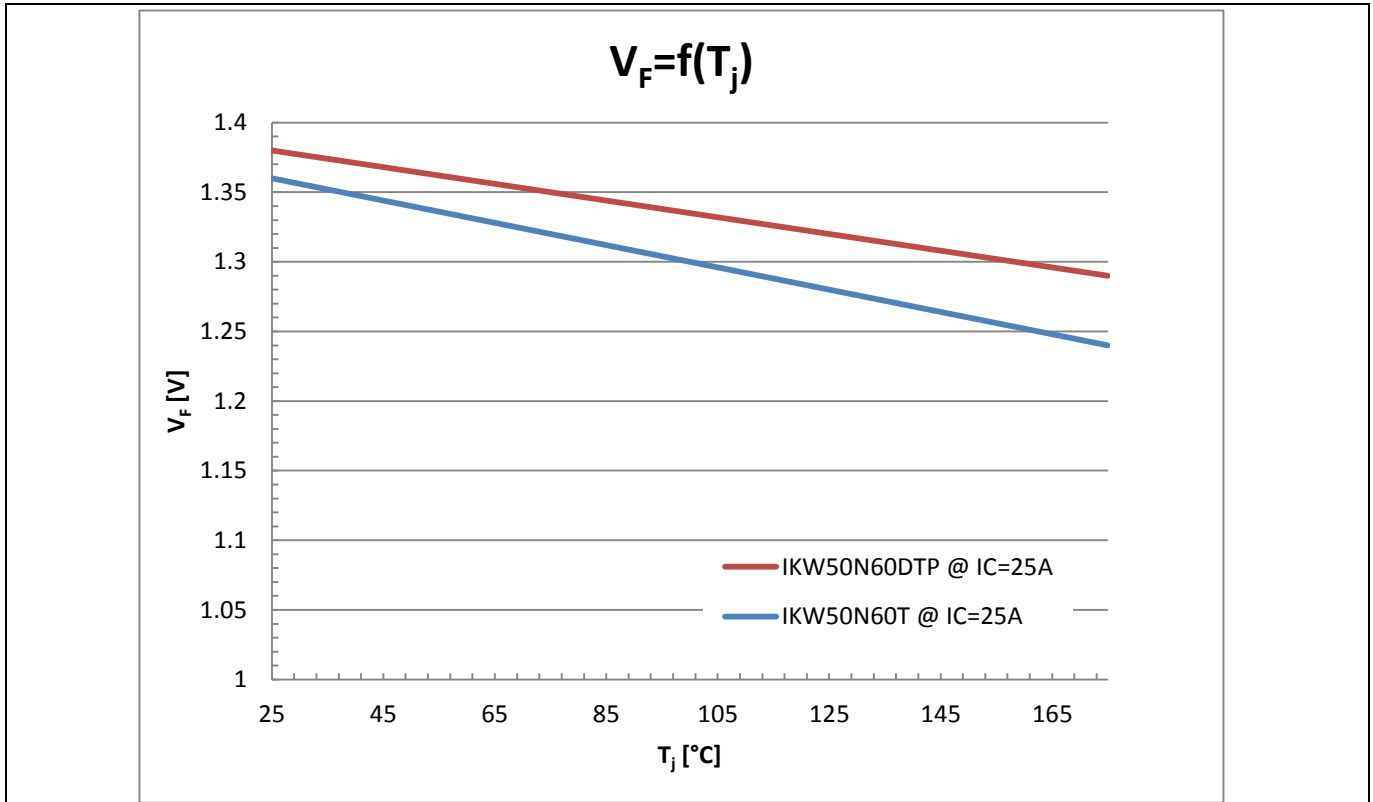
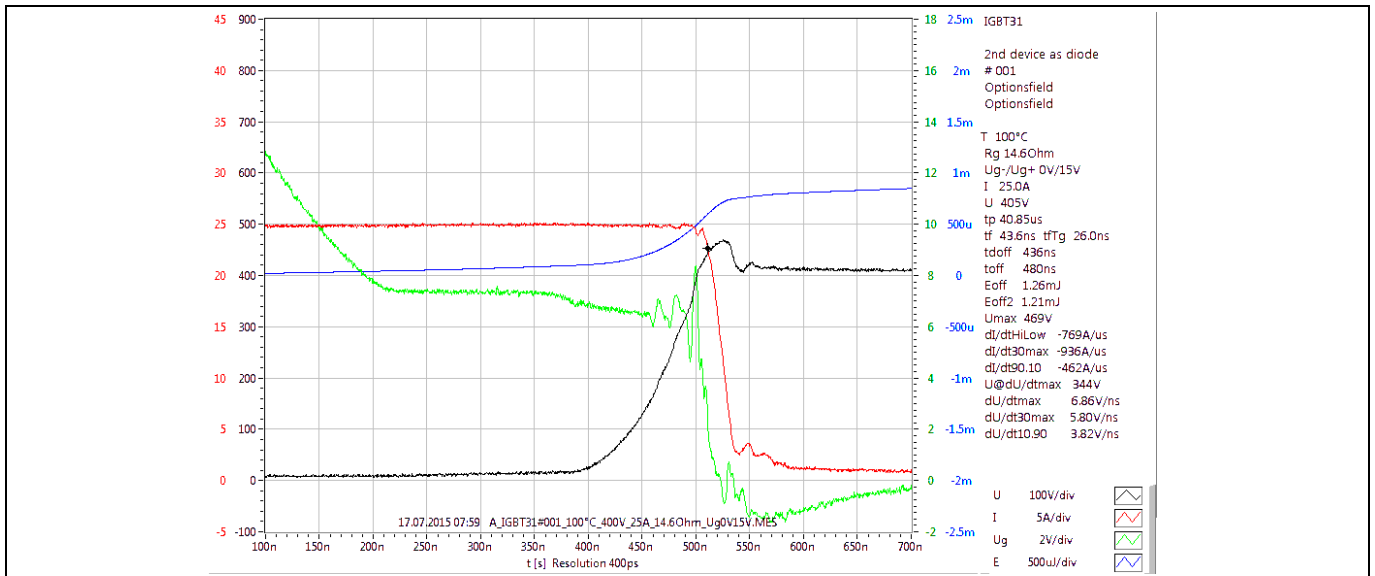

Figure 9  $V_F$  as a function of the  $T_j$
Figure 14 Turn off of IKW50N60DTP
*Note: The temperature characteristic shown in Figure 9 is a simplification. For more details please refer to the appropriate datasheets.*
Figure 9 to Figure 14 show the switching behavior of both technologies in a double-pulse test setup for the following conditions: